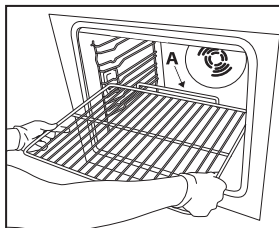

Fig. 1
1. Insert the wire shelf horizontally, with the raised part "A" upwards (Fig. 1).